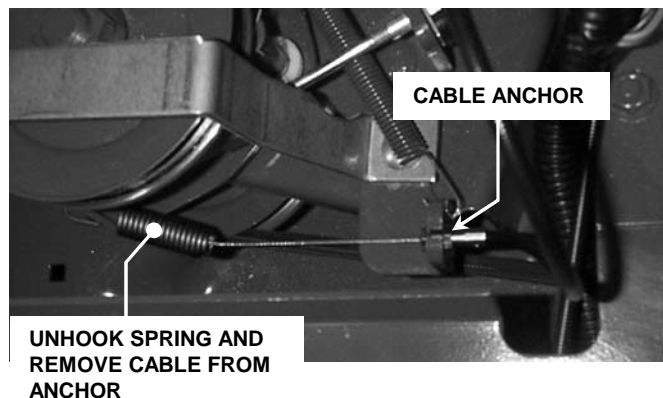

FIGURE 4.7
4. Remove blade control cable from cable anchor bracket and unhook control cable spring from the idler arm. See Figure 4.7.